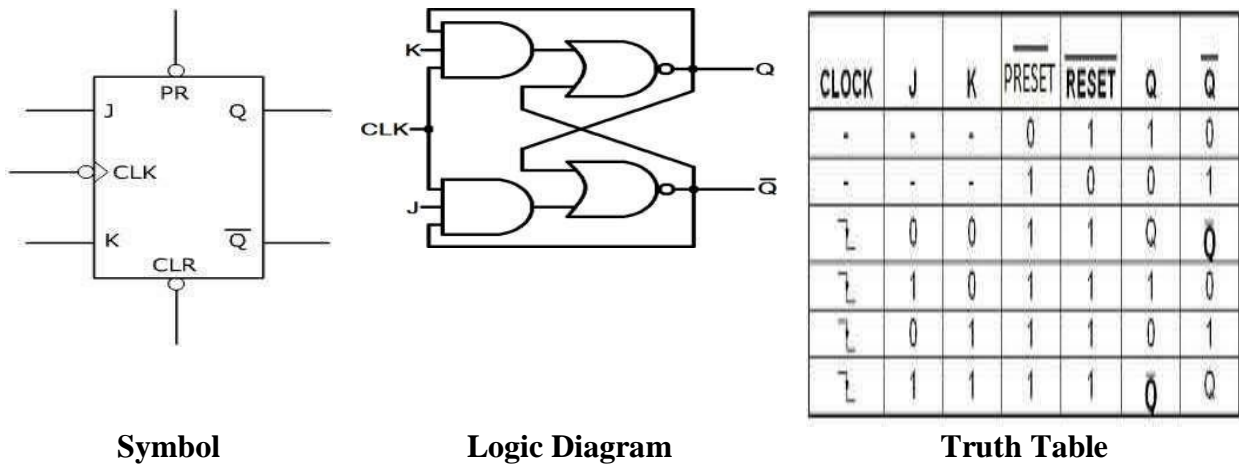

Fig. 7.5. : JK Flip- Flop
1. Connect the logic diagram as shown in Fig. 7.5